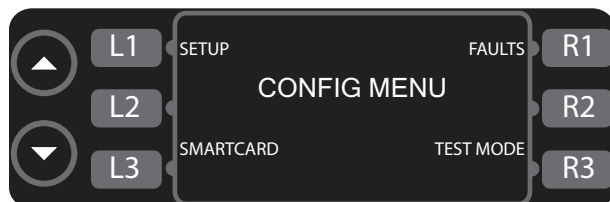
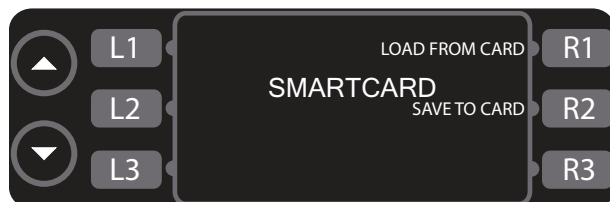

Figure 9: Config Mode
Figure 10: Smart Card Screen
The CONFIG MODE (Figure 9) serves four main purposes:
1. Press L3 (Figure 9) to access the smart card screen (Figure 10).
- Press R1 to load a menu from the smart card to the oven (Figure 10).
- Press R2 to save a menu from the oven to the smart card (Figure 10).
From the CONFIG MODE (Figure 9, page 15), press R1 to access the fault count screen (Figure 13). The oven will display the number of faults that have occurred since the oven fault counts were last cleared (page 20), the oven's software was last updated (page 15), or the oven was last returned to the manufacturer's default settings (page 20).
From the CONFIG MODE (Figure 9, page 15), press L1 to access the SETUP MODE. The SETUP MODE allows the user to customize several oven settings - see below for more details.
From the CONFIG MODE (Figure 9, page 15), press R3 to access the TEST MODE. The TEST MODE gives the service agent the ability to diagnose oven problems and perform other service related tasks. See page 17 for more information on the TEST MODE.